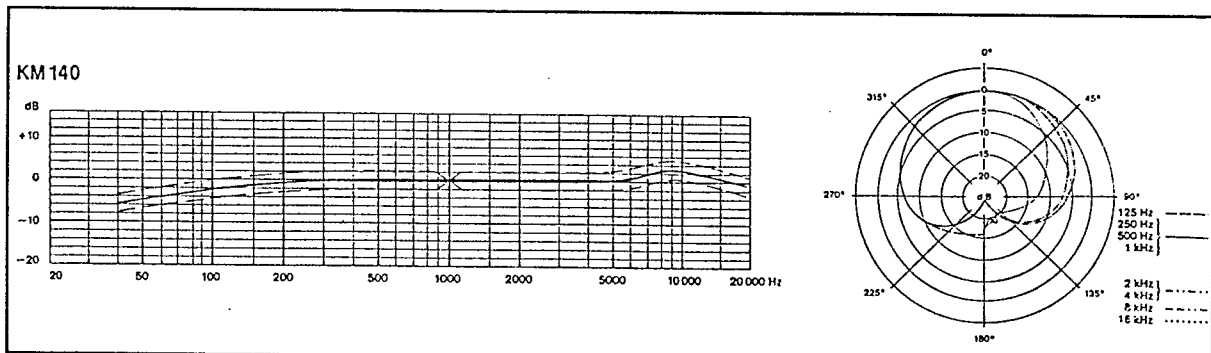

Fig. 6 Microphone with AK 40 cardioid capsule
- b) The pressure gradient receiver with cardioid polar pattern displays very even frequency curves parallel to the sound incidence angle  $0^\circ$ . Consequently, sound over a pick-up angle of  $\pm 135^\circ$  is reproduced without any colouration, and the microphone has a level frequency response in either free or diffused field. Its sound character is therefore unaffected by the critical distance of the recording premises (Fig. 6). As a pressure gradient receiver, this capsule has the property of lending a lift to the bass range of very close-proximity sounds ("Proximity Effect" [1]). As a result, when it is used for speech or song the slightest differences in spacing become audible parts of the sound pattern and lend a lifelike presence to the performance.